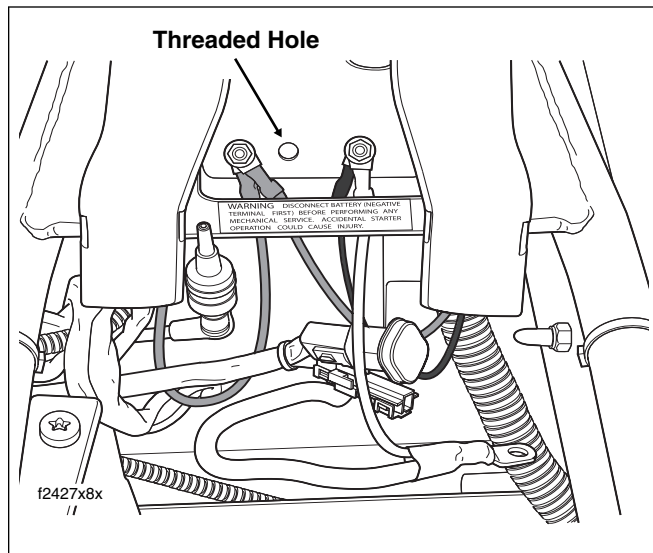

Figure 8-169. Remove Seat
2. Locate threaded hole between ground studs. See Figure 8-169. Thoroughly scrape away all paint from around threaded hole.